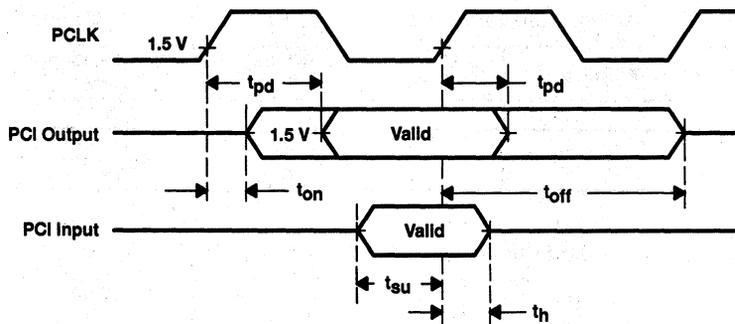

Figure 6. Shared-Signals Timing Waveforms
**PCI timing requirements over recommended ranges of supply voltage and operating free-air temperature (see Figure 6)**